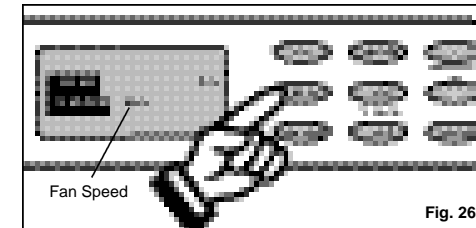

Fig. 26
- Press the **FAN** key to select the desired **FAN SPEED** setting. *Fig. 26*. Your selection will be displayed in the **LCD** window. Each depression of the fan key will advance to a different speed (**Low-Med-High**).